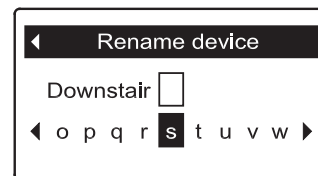

FIG. 73
7. Press the RIGHT (▶) or LEFT (◀) buttons to scroll through the character list. Stop when the character you want to select is highlighted (See Fig. 73).